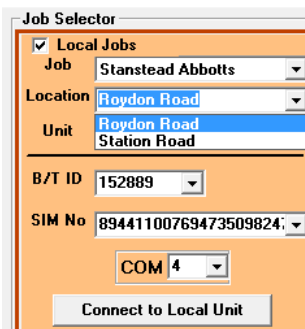
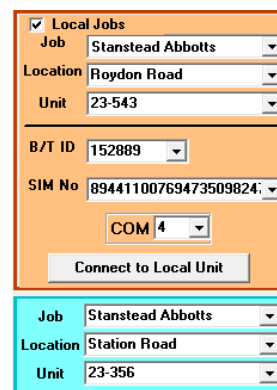

Figure 7.8 Job selector – iii
Figure 7.9 Job selector – iv
- Location: Where a job has only one location in the configuration file, the Location menu will use it, otherwise it will allow the user to select the one they wish to work on Figure 7.8. The unit number will be extracted from the configuration file and the data displayed in full. This is repeated in the second job selector (blue area) unless there are two locations associated with the job (e.g. a TRS scheme), in which case, both locations will be displayed Figure 7.9.